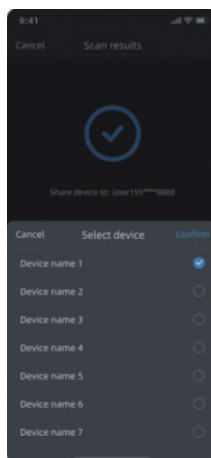

Figure 4
4)Figure 4: When there are multiple devices under your name, you can select the device you want to share in the "**Select device**" pop-up window.